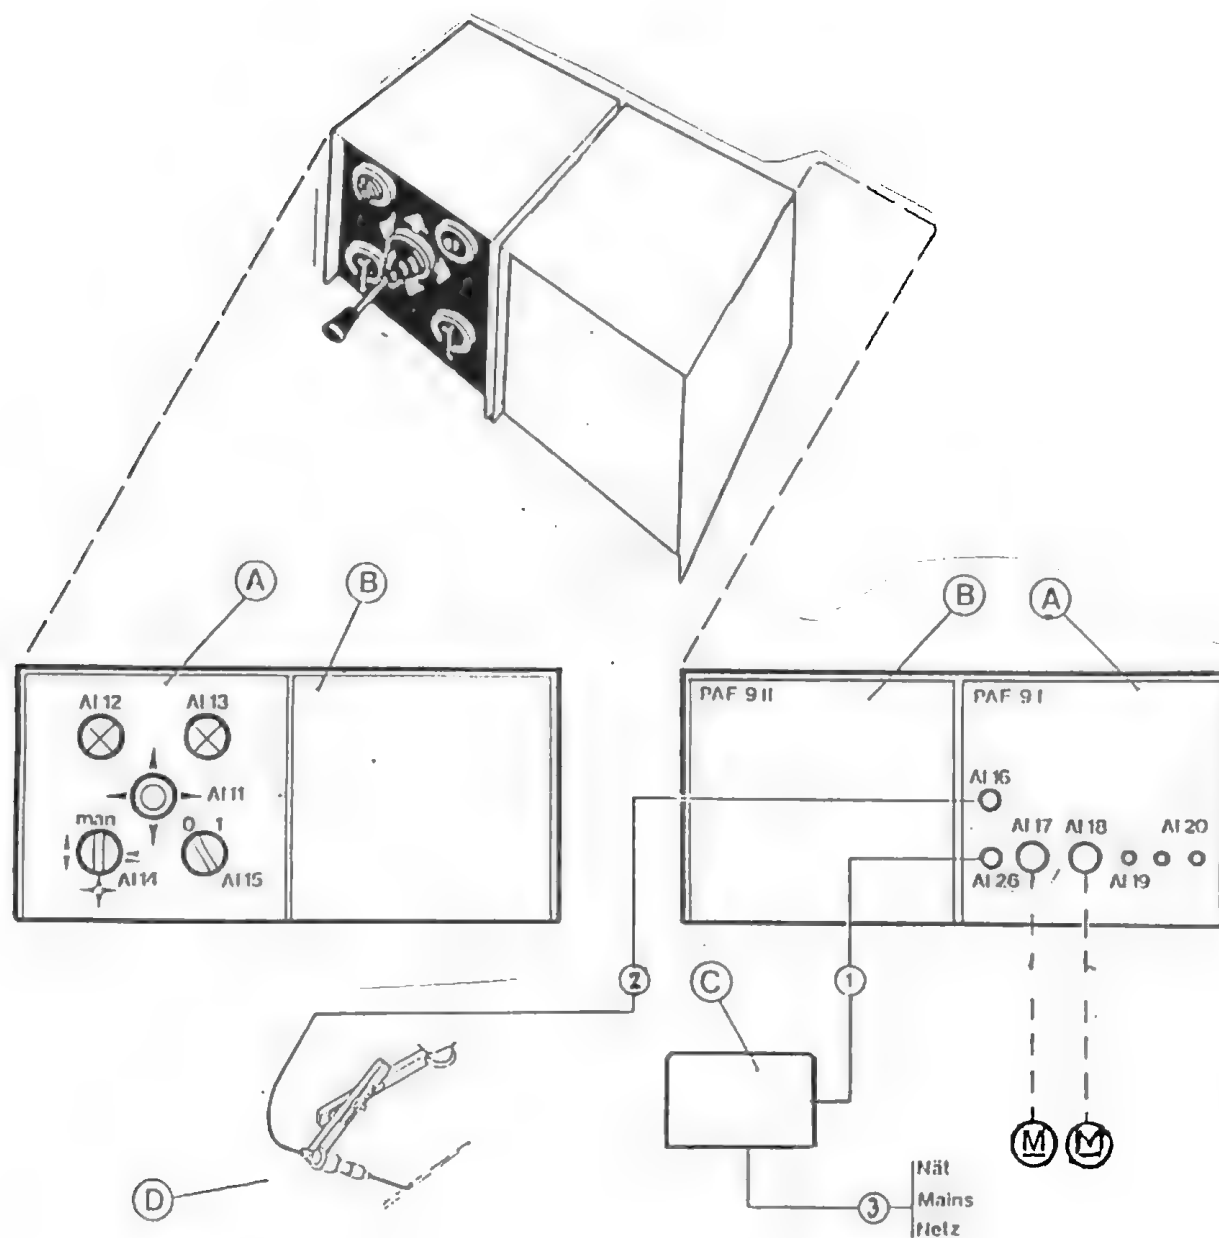
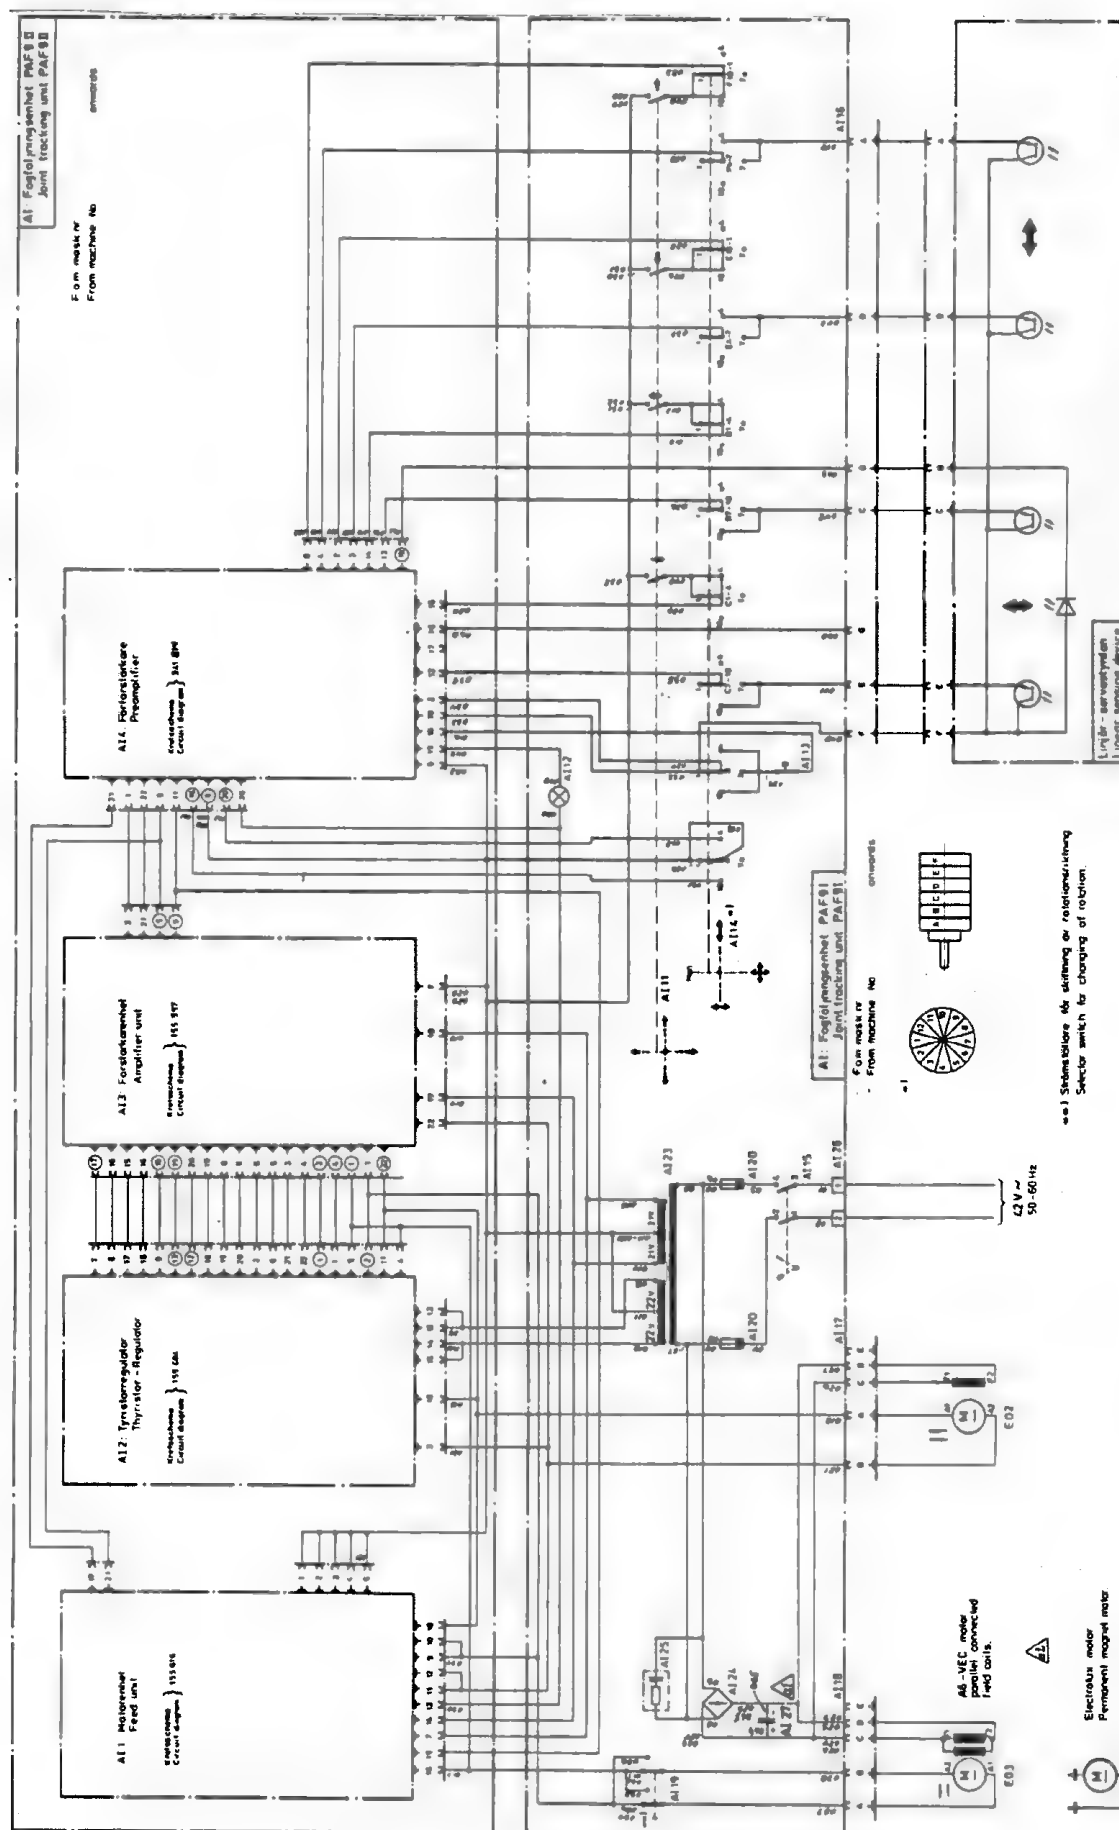

Fig 6
Fig 7
- 2 For connection, see Fig. 6 and the connection instructions, Fig. 7. Check that necessary power and voltage for complete installation are available.